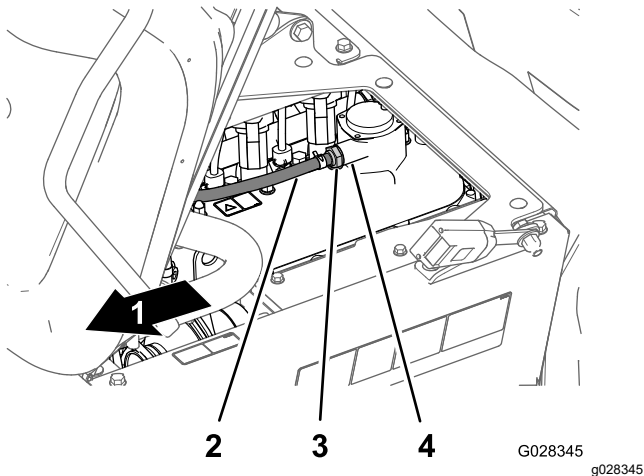

Figure 114
2. Remove the PCV valve from the fitting of the valve cover (Figure 114).
Note: If the internal restrictor of the valve rattles, the PCV valve is serviceable; if the internal restrictor is not free to rattle when shaken, replace the PCV valve (Figure 114).
4. Insert the PCV valve until it is fully seated in the seal for the valve-cover fitting (Figure 114).